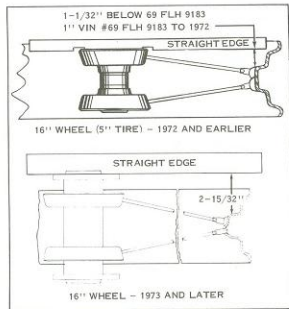

Figure 2-22. Centering Wheel Rim - 16 Inch
5. Rim must be properly centered sideways in relation to hub for correct alignment and "tracking" of front and rear wheels. Figures 2-22, 2-23 and 2-23A show method of using a straightedge to determine correct sideways centering of wheel rims as specified. Place straightedge across hub on brake side and measure the distance from straightedge to rim well as shown. Note that late 1969 to 1972 Electra Glide models have rim laced off center. Rims 1973 and later are centered on hub which includes cast wheels.